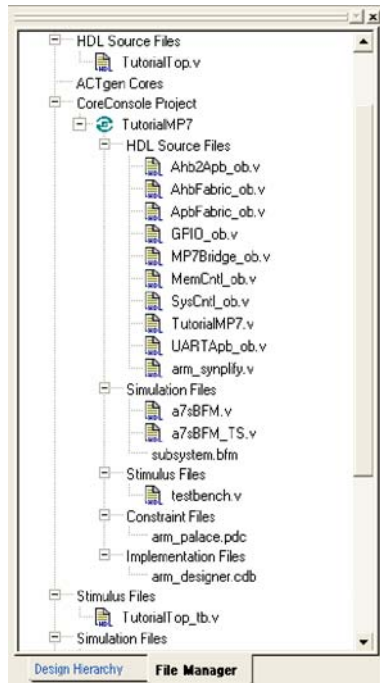

Figure 5-25. Libero IDE File Manger with Stimulus
3. From the **File** menu, click **Save**. The testbench file now appears in the Libero IDE Design Manager. Libero IDE lists *TutorialTop\_tb.v* under Stimulus Files, as shown in Figure 5-25.